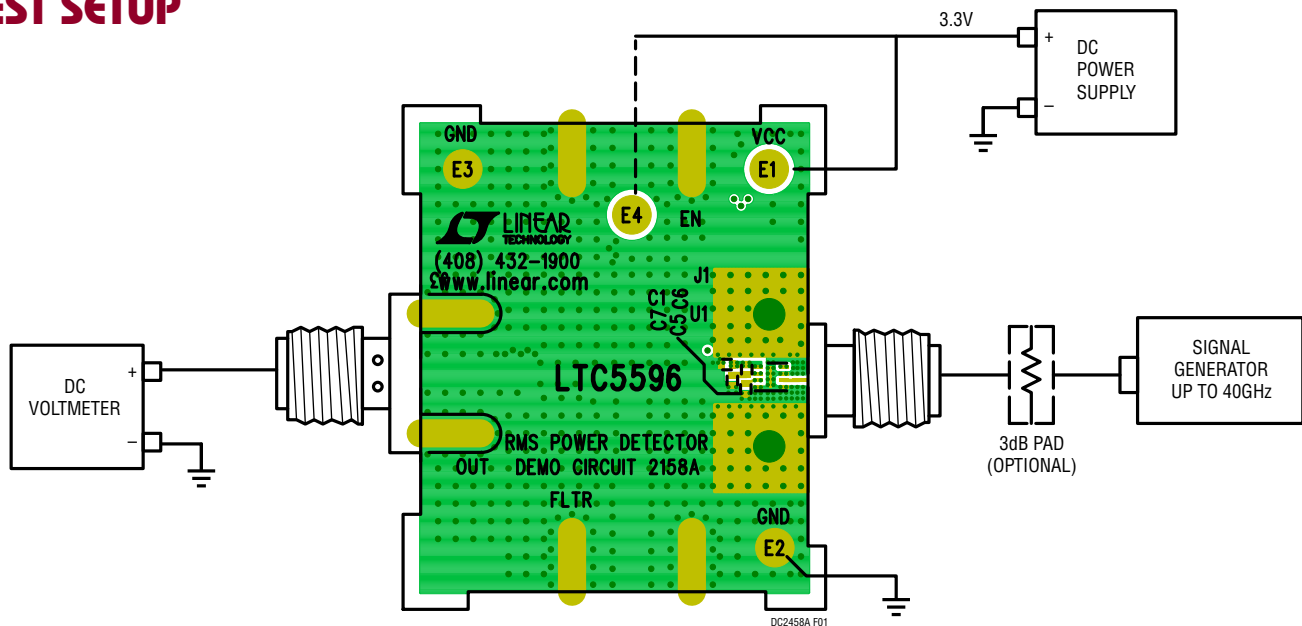

Figure 1: Test Setup for RF Performance Measurements
1. Remove the DC2158A from its protective packaging in an ESD-safe working area (see Figure 1).